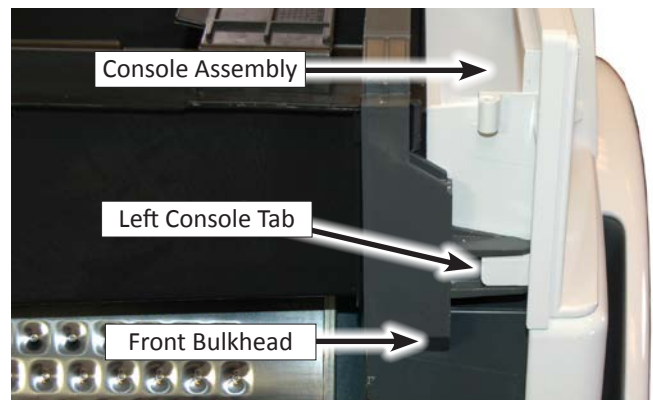

Figure 3
7. On the left side of the dryer (left panel should be removed) gently lift up on the left console tab to disengage left side of console from the front bulkhead (see Figure 3).